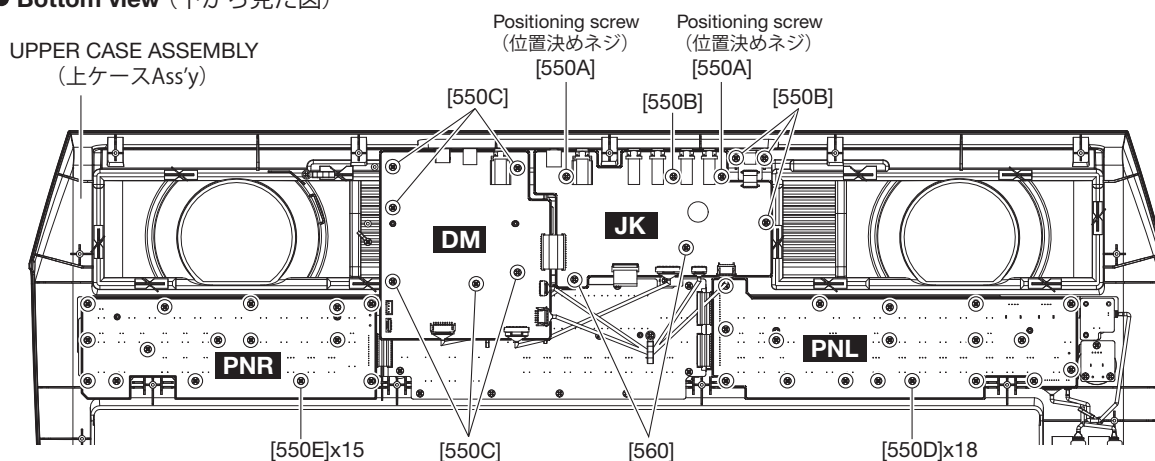

Fig. 2 (図2)
- 3-2. Remove the two (2) screws marked [550A], four (4) screws marked [550B] and two (2) screws marked [560]. The JK circuit board can then be removed. (Fig. 2)
* **When installing the JK circuit board, first tighten the two (2) screws marked [550A] and then the remaining screws. (Fig. 2)**
- 4-2. Remove the six (6) screws marked [550C]. The DM circuit board can then be removed. (Fig. 2)
- 5-3. Remove the eighteen (18) screws marked [550D]. The PNL circuit board can then be removed. (Fig. 2)
- 3-2. [550A] のネジ 2 本と [550B] のネジ 4 本、[560] のネジ 2 本を外し、JK シートを外します。(図 2)
- ※ JK シートを取り付けるときは、[550A] のネジ 2 本を締めてから他のネジを締めてください。(図 2)
- 4-2. [550C] のネジ 6 本を外し、DM シートを外します。(図 2)
- 5-3. [550D] のネジ 18 本を外し、PNL シートを外します。(図 2)
- 6-2. Remove the fifteen (15) screws marked [550E]. The PNR circuit board can then be removed. (Fig. 2)
(図 2)